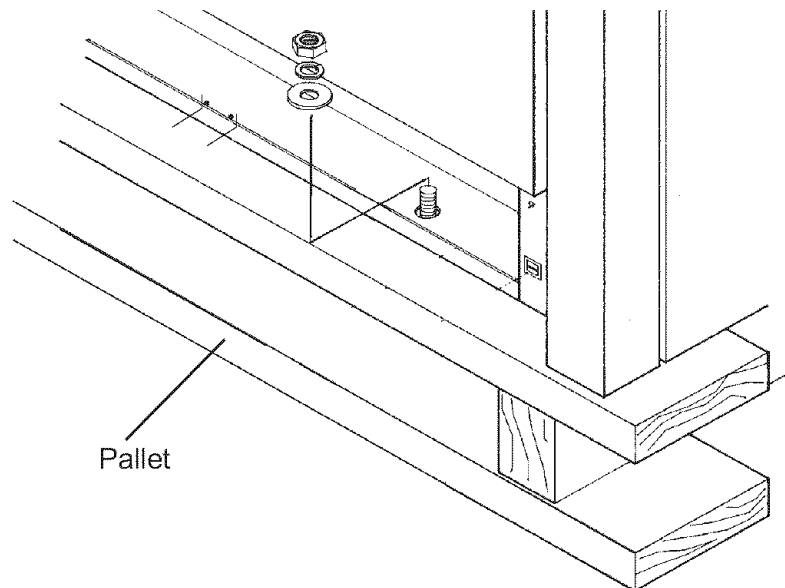

Figure 4: Removal of the Four (4) Shipping Bolts
- Remove the outer carton and packing material from the shipping base. The dual fuel ranges are held to the pallet by four (4) bolts (see Figure 4). After removing the bolts, the range must be lifted and removed from the pallet.